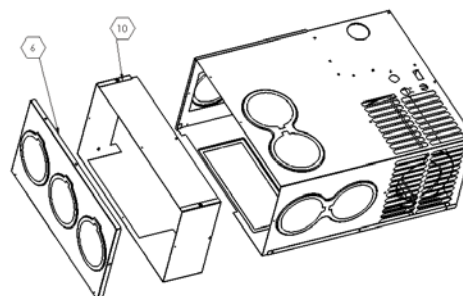

Figure 4
5. Attach extension box to back of furnace with 3 screws removed from step 1 fig 4.
6. Attach side panel (8) to side of furnace with 4 screws. Flattened vertical flange will overlap outside of extension box.